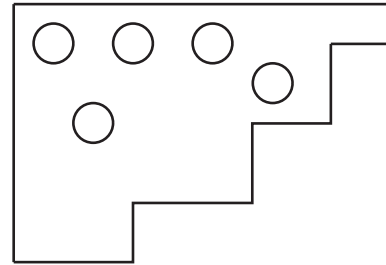

Fig. 27-5
3. Mirror the sheet-metal part to the right (see Fig. 27-5) and delete old objects. If necessary, move the part so it is in the positive  $x$  and  $y$  quadrant.
5. Use **COPY** to create four additional holes. Place the holes as shown in Fig. 27-5.